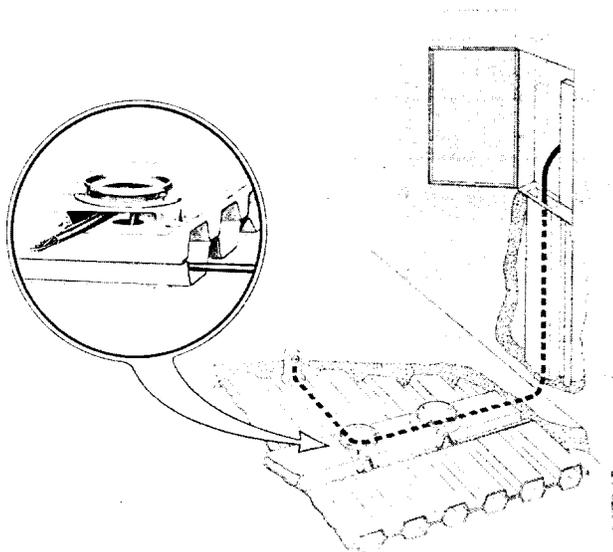

Fig. 3—Cellular Underfloor Duct System
2.06 The cellular underfloor duct system (Fig. 3) consists of cell centers which are 6 inches apart. A header duct crosses the cells and connects to a distribution terminal cabinet. Junction boxes, located in the header duct, provide access to the system wiring.